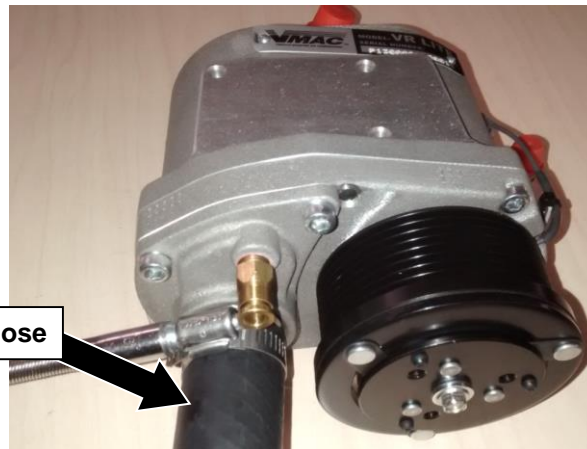

Figure 3
- ☐ Locate the air inlet hose on the compressor body. Using a 5/16" (8mm) flex drive (or flat head screwdriver if flex drive is unavailable), loosen the gear clamp from around the hose. Remove the air inlet hose. (Figure 3)